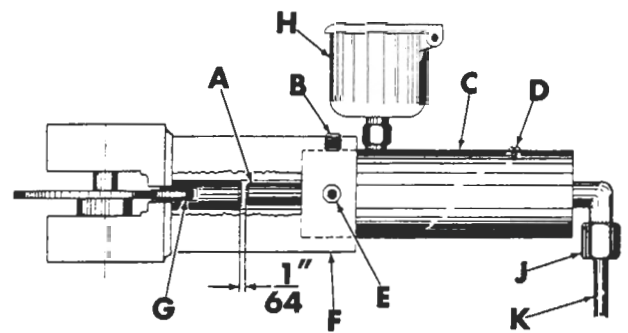

Figure 11
- B. Loosen bleeder screw (D, fig. 11) a few turns until oil starts coming out around the screw.